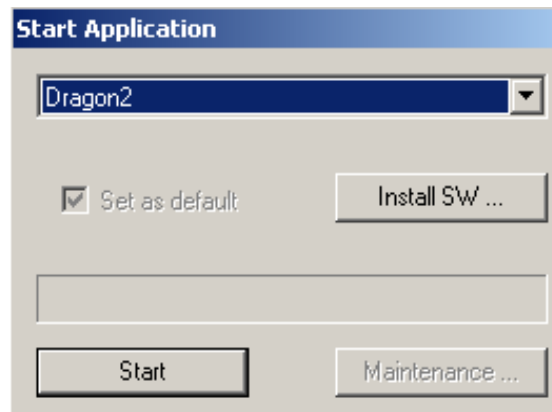

Figure 3-23 Start Application Window
- 5.) Power on the system. Wait for a dialog box like the one in Figure 3-23 on page 3-30 .